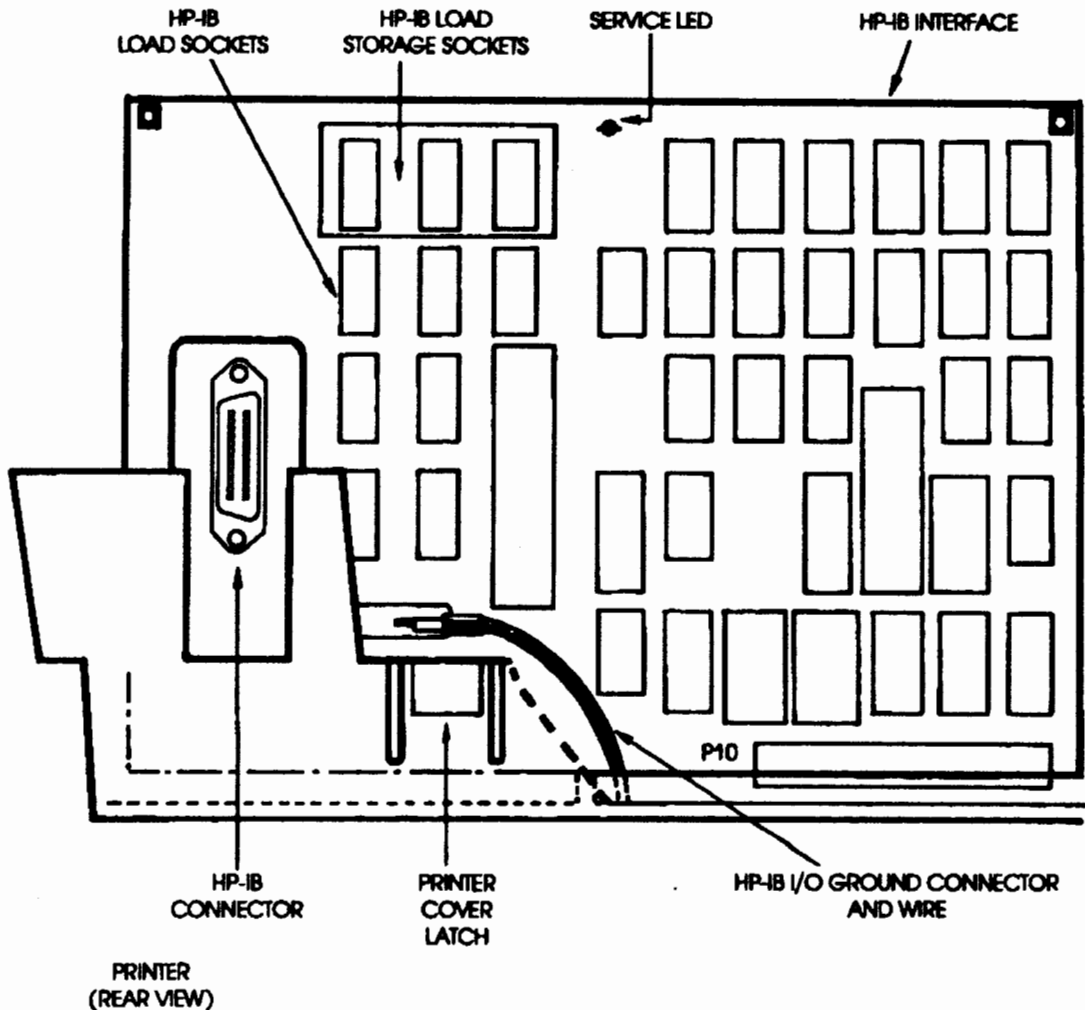

Figure 2-1. Interface Installation
- a. Set the Main Power On/Off switch at the back of the printer to off (0).
- e. Connect the printer ground wire from the printer Backplane/Analog PCA to the HP-IB interface PCA (see figure 2-1).
- h. Set the printer POWER switch to on (1).
- j. Disconnect the power to the printer by setting the Main Power On/OFF switch at the back of the printer to off (0).
- m. Connect the HP-IB cable to the printer I/O connector (see figure 2-1).